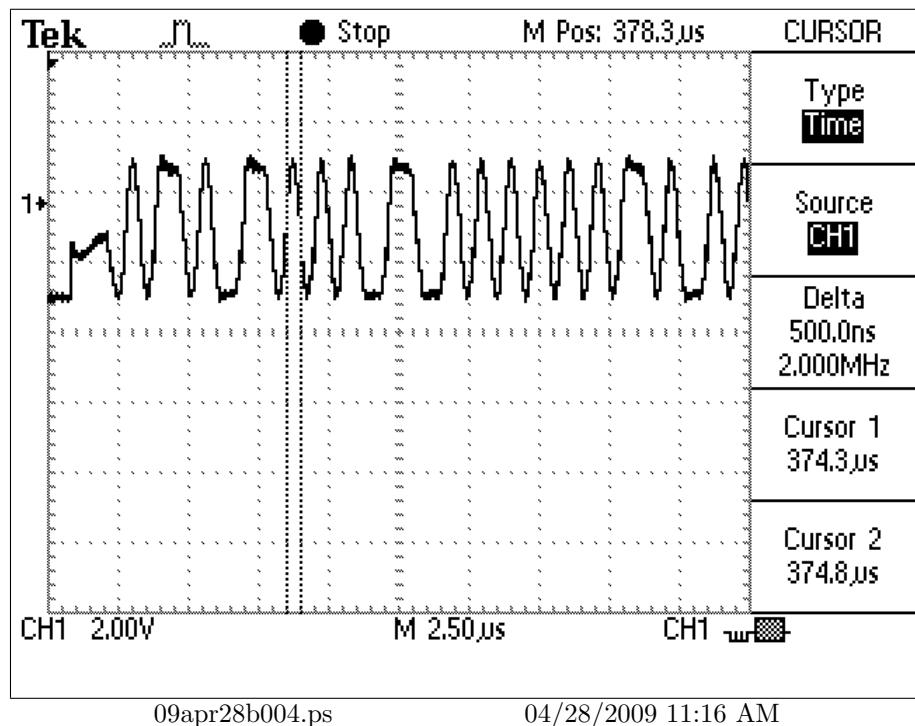

Figure 13: Duration of a “0” bit
- 7.3 It appears that “0”’s are $.5\mu s$ long. (Figure 13, page 16)